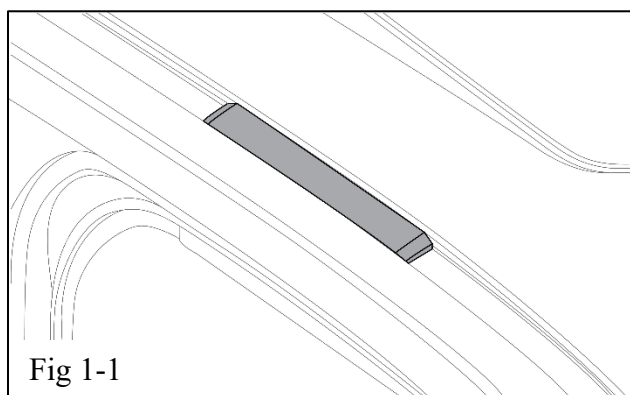

Fig 1-1
- (a) Locate 4 roof drip molding covers on roof of vehicle. Fig 1-1.